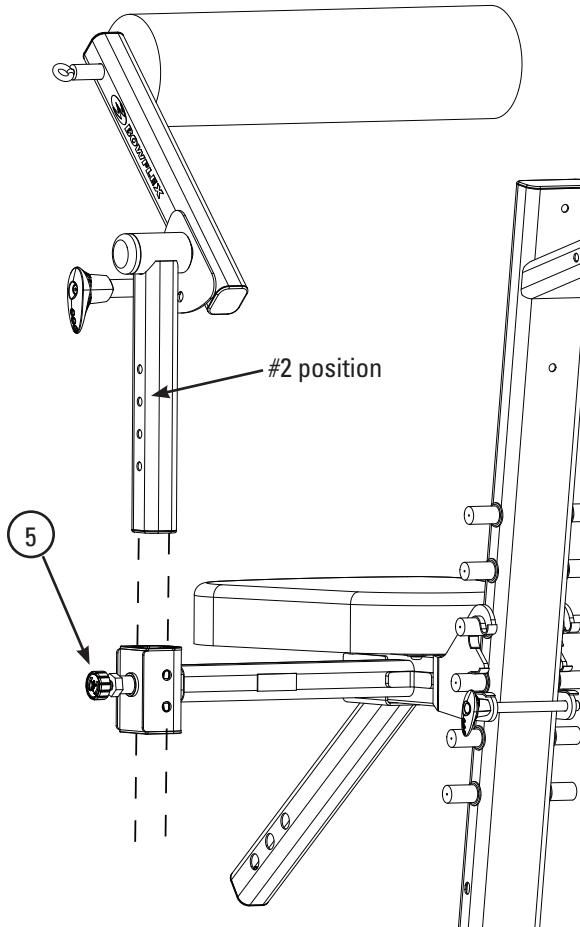

Figure 5a - view from behind seat
- 5-1 Insert the Upper Assembly in the side bracket on the Seat Assembly (**Figure 5a**). Lock the Upper Assembly in the #2 position with the Lock Knob (5).